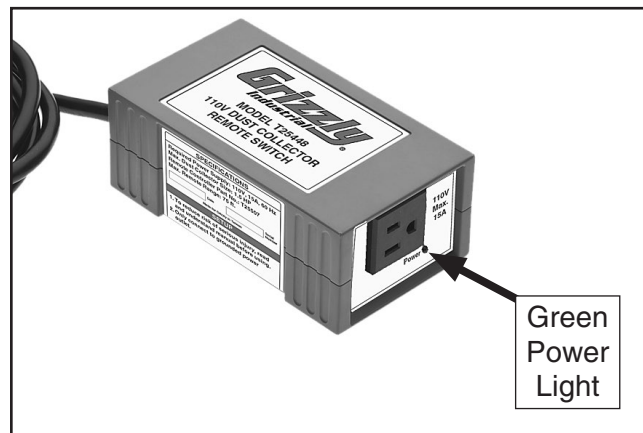

Figure 6. Green power light on switch box.
3. Press the remote controller ON button once to turn the dust collector **ON**. The green power light on the switch box will also illuminate (see **Figure 6**).